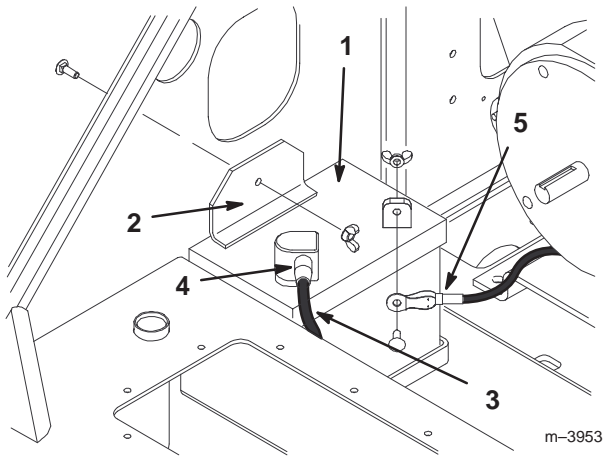

Figure 3
1. Remove the wing nut and bolt securing the battery clamp and strip (under the clamp) and remove the clamp and strip (Fig. 3).
9. Install the battery into the chassis (Fig. 3).
10. Secure the battery in the chassis with the battery clamp, strip, and wing nut (Fig. 3).
11. Using the bolt and wing nut supplied with the battery, connect the positive (red) cable to the positive (+) battery post (Fig. 3). Slide the rubber cover over the battery post.
12. Using the bolt and wing nut supplied with the battery, connect the negative (black) cable to the negative (-) battery post (Fig. 3).